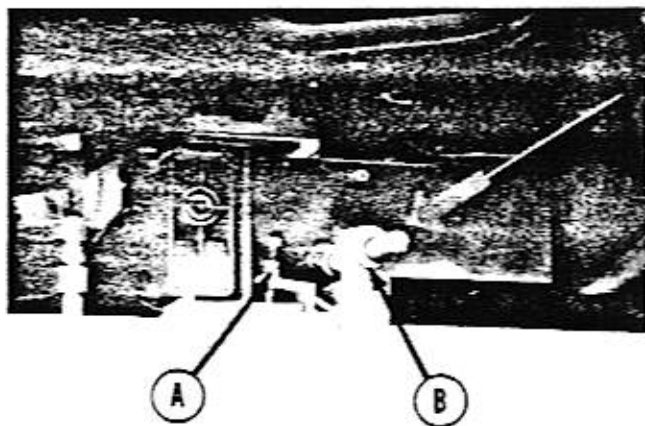

Figure 14-9
2. Loosen the bolts (A) securing the power pack to the unit main frame assembly. See Figure 14-9.
3. Loosen adjusting rod locknuts (B) on both sides and adjust the tension. Always turn the nuts equally to keep the engine in line so the belts will run true. See Figure 14-9.
5. When you have the correct tension and alignment, tighten the locknuts. See Figure 14-9.